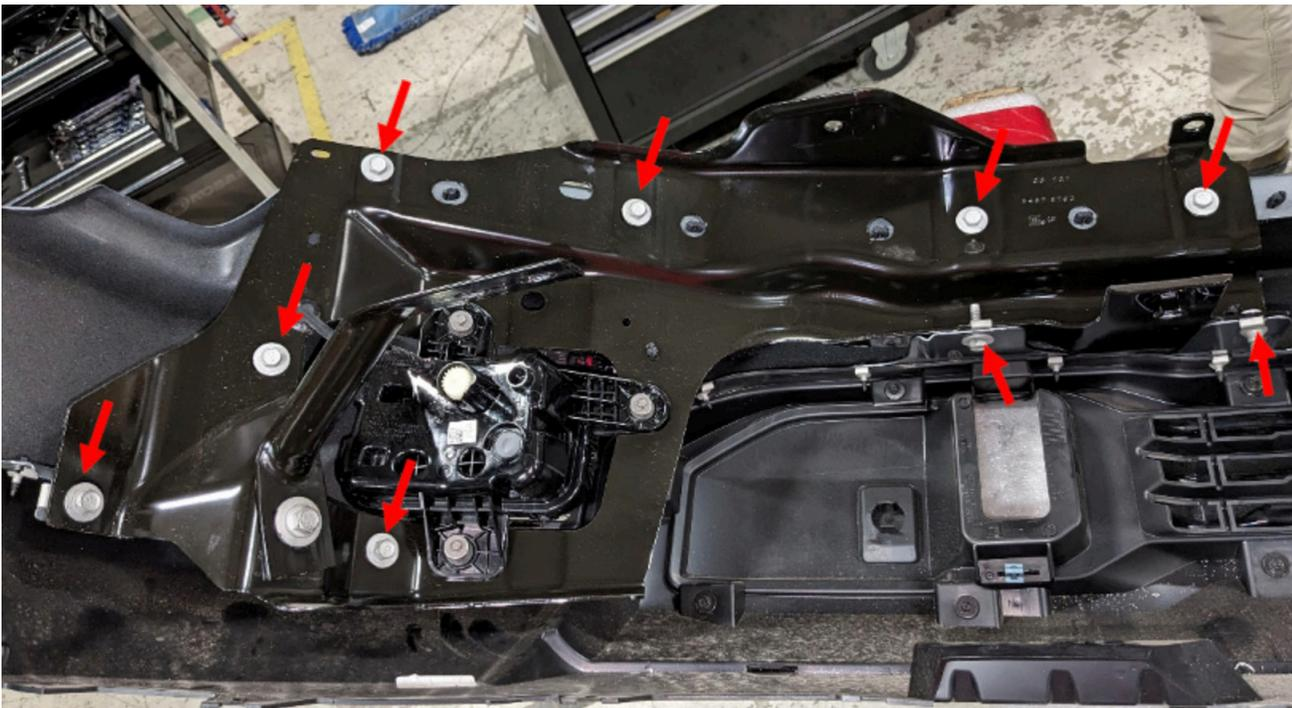

Figure 22
28. To gain access to OEM sensors, remove the inner bumper structure by removing nine (9) 13mm bolts per side, and pushing wire harness push pin holders from brackets. Figure 22